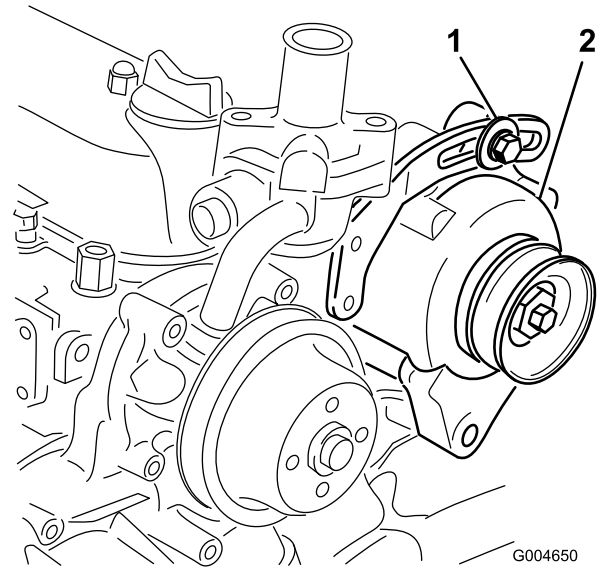

Figure 46
2. If the deflection is not 3/8 in. (10 mm), loosen the alternator mounting bolts (Figure 46).